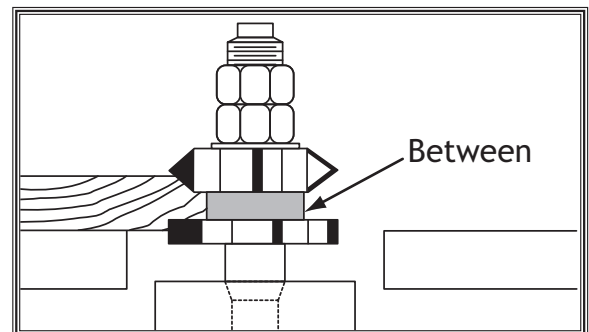

Figure 22. Rub collar mounted between two cutters.
- **BETWEEN TWO CUTTERS** as shown in **Figure 22**. This setup has the advantage of making two profile cuts in a single pass.